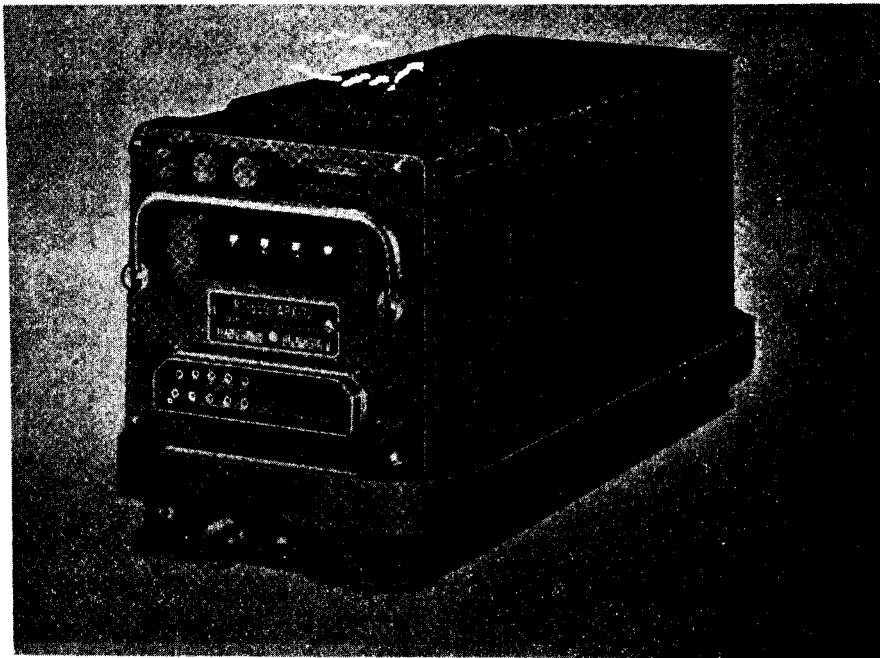

Figure 1-3. Receiver-Transmitter, Radio RT-859/APX-72.
a. The RT-859/APX-72 (fig.1-3) is encased in a two-sectioned housing suitable for pressurizing. A silicon rubber O-ring serves as a pressure seal between the two sections which are joined together by an encircling flange coupler with clamp. The lower section of the housing is provided with extrusions which mate with cavities on the mounting frame. The upper section of the housing contains a chassis with compartments for seven digital circuitry printed circuit boards and a plug-in power supply. A frontal panel, containing three fuseholders, an elapsed time meter, the MODE 2 switch assembly, the power control connector, and a folding handle, is fastened to the upper section of the case. The lower section of the housing contains the rf and video circuit com-